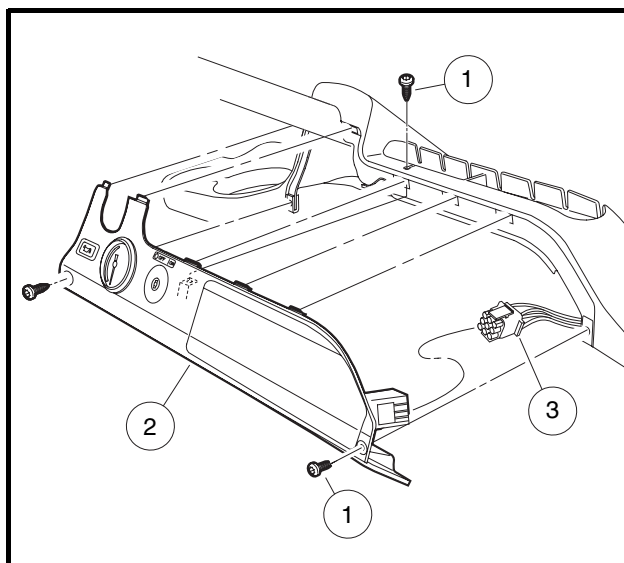

Figure 12-16 Instrument Panel Removal
- 2.1. Remove three screws (1) from the instrument panel (2) (**Figure 12-16, Page 12-13**).
- 2.1. Connect the electrical connector (3) **(Figure 12-16, Page 12-13).**